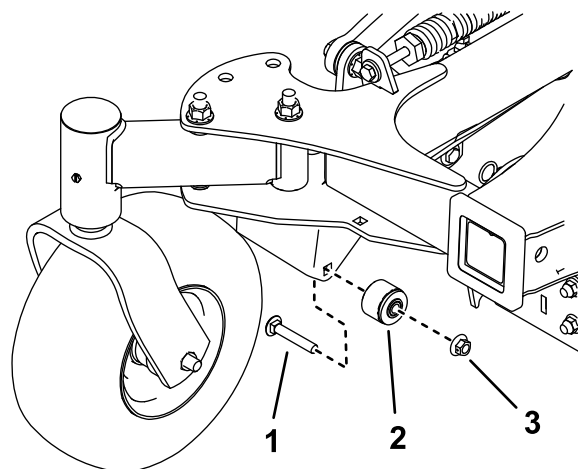

Figure 30
9. Remove both bushing assemblies (Figure 30).